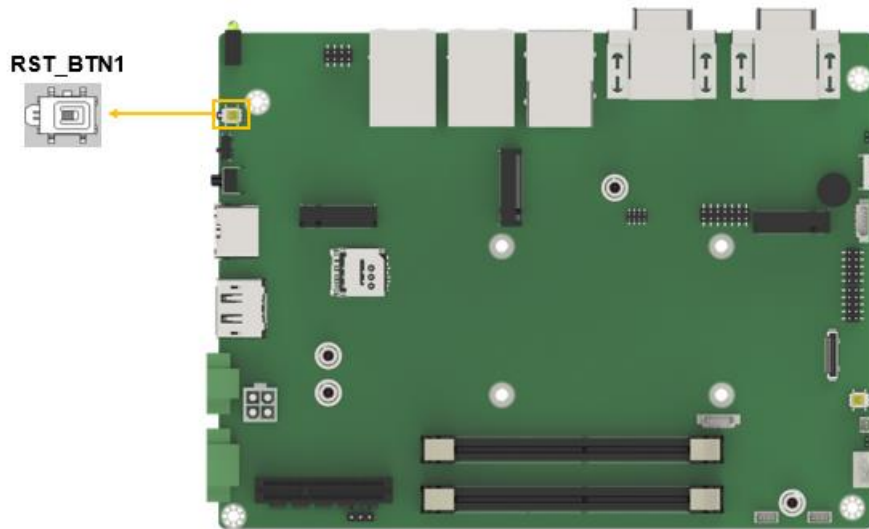

Figure 4-24: Reset Button Connector Location
- CN Location:** See **Figure 4-24**